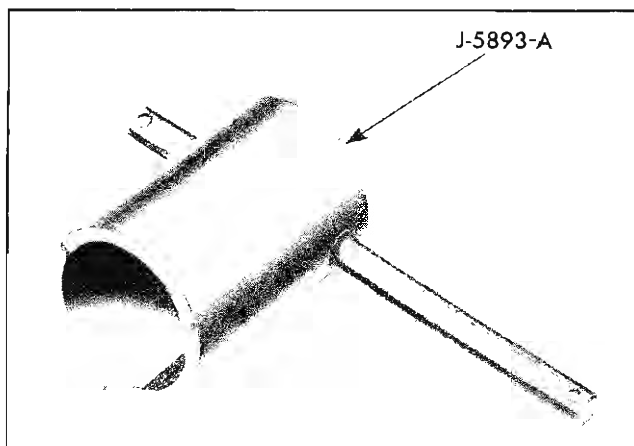

Fig. 11-49 Ignition Switch Ferrule Spanner
2. Remove ignition switch ferrule by unscrewing with special spanner J-5893-A (Fig. 11-49).